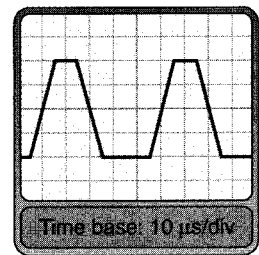

FIGURE 19.51
7. Determine the values of PW and  $T_C$  for the waveform in Figure 19.51.
9. Calculate the duty cycle of the waveform in Figure 19.51.